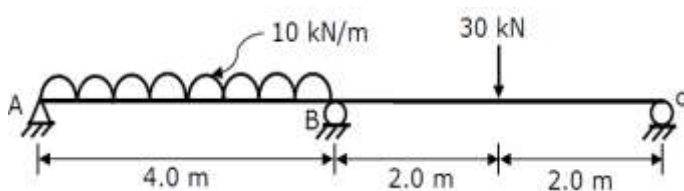

Figure 2
- (b)** Analyse the continuous beam ABC as shown in figure 2. using Moment distribution method. Draw shear force and bending moment diagram also. **08**